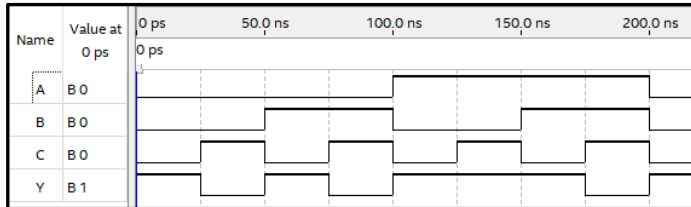

Figure 10: Output of Functional Simulation
- Zoom in on the window. You should see something similar to Figure 10.